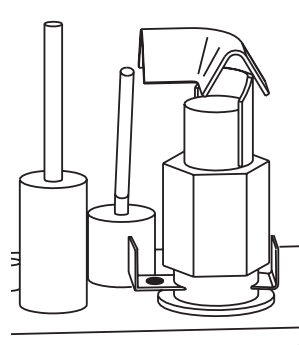

Figure 29. Integrated dual-fuel pilot orifice- LP position shown.
- b) **Use the 7/16" wrench to just loosen the pilot head enough to push in the adjustment slide.** See fig. 29.